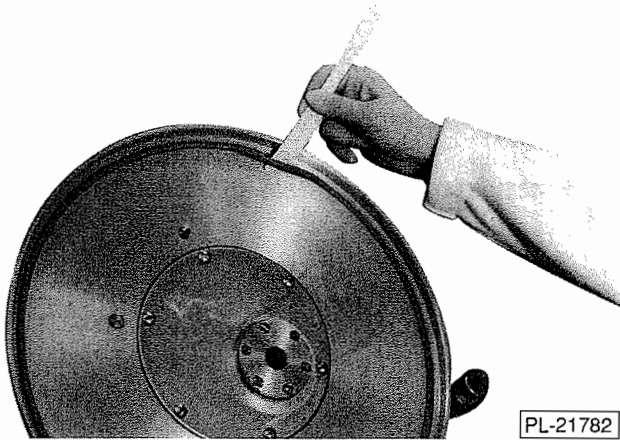

Fig. 28
2. Remove the O-ring from the underside of the kettle lid by prying it loose at one point with a plastic knife (Fig. 28) or other blunt thin tool. Avoid slicing or gouging the O-ring. Wash the O-ring separately in warm soapy water, then rinse thoroughly and dry with a soft clean cloth. **CAUTION: Never use a metallic or sharp instrument to remove or insert the O-ring.**